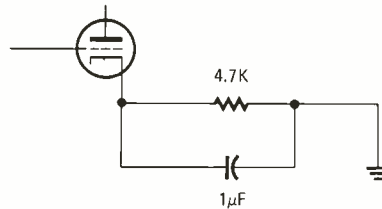

FIG. 5
7. What is the time constant for the cathode circuit in Fig. 5?